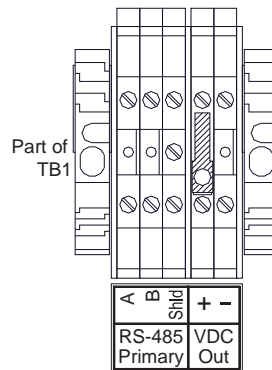

Figure 5 RS-485 wiring Terminals
- Connect the RS-485 wiring from remotely located I/O devices to the terminals located on the Back Panel. These terminals are labeled RS-485 “A” (+), “B” (-), and “Shld” (shield) for primary RS-485 communication (Figure 5). RS-485 wiring should consist of a two conductor, shielded twisted pair (Belden cable P/N 9841 is recommended). Also available are two output terminal blocks to provide 24VDC to external RS-485 devices. This power should be used only to power remotely located I/O modules and/or sensors, and should not exceed a total of 3 Amps accumulative for all I/O modules and sensors attached to the controller. (I.E. if there are two modules mounted in the enclosure that have an accumulative current draw of 0.5Amps, the sensors and/or I/O modules connected to the output 24VDC should not exceed 2.5Amps.) Refer to each module and sensor manual for maximum expected current draw from each device.